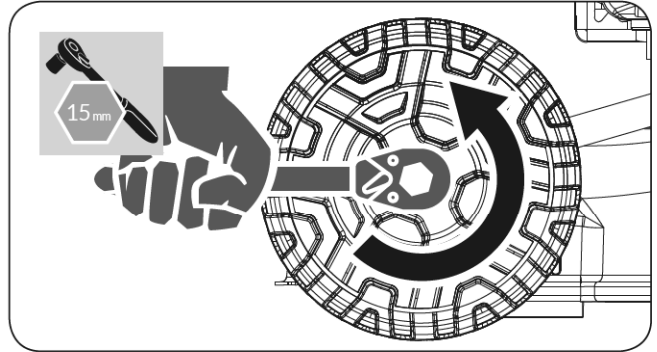

Figure 47
2. Remove the wheel nut and wheel from the wheel axle, using a 15 mm socket wrench. (See **Figure 47**)